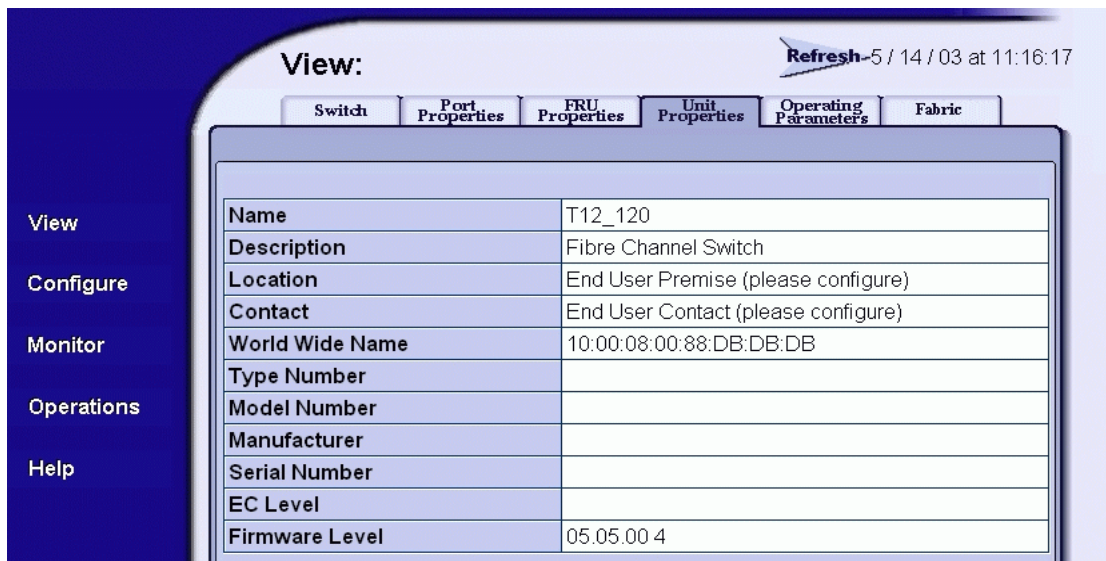

Figure 4-21 View Panel (Unit Properties Page)
1. When the SANpilot interface opens, the *View* panel and *Switch* page appear as the default. At the *View* panel, click the *Unit Properties* tab. The *Unit Properties* page displays (Figure 4-21).